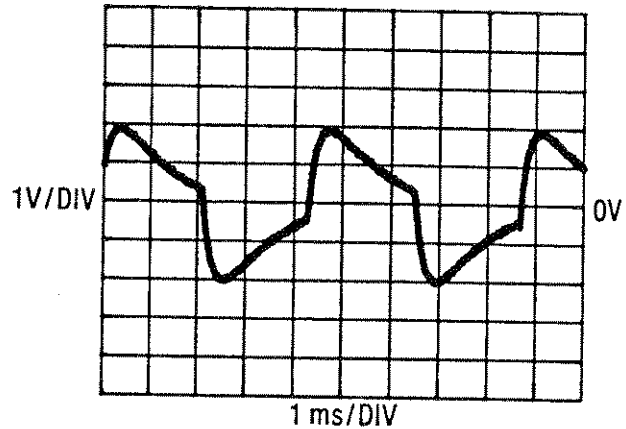

Figure 8-42. Variable Gain Amplifier Waveform
2. Compare the waveform at A5TP18 with Figure 8-42. If the waveform is incorrect, perform the Range Attenuator ($\div 1$, $\div 100$) and Variable Gain Amplifier Tests. If the waveform is normal, continue with step 3.